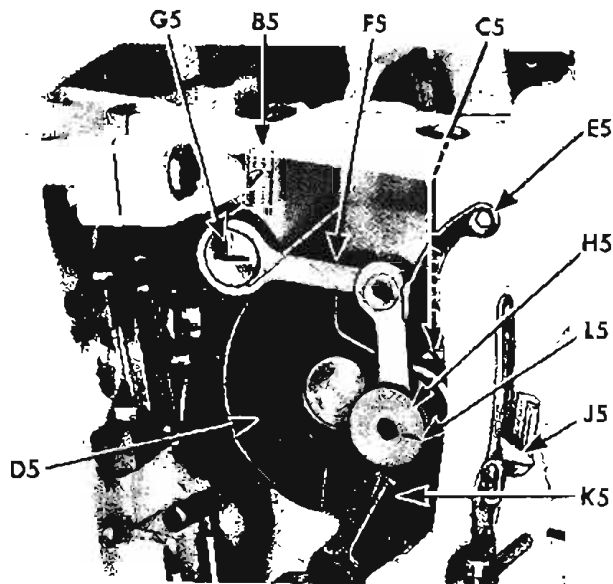

Fig. 49. Needle Thread Take-up
2. When inserting stud H5 into corresponding hole in crank D5, position mark L5 parallel to head of screw C5, as shown in Fig. 49. Press firmly on stud H5 and tighten set screw C5.